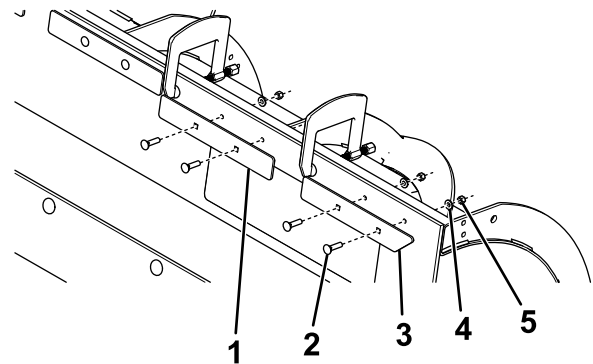

Figure 2
**Note:** If your plow does not have holes to use as a guide, use Figure 2 as a drilling guide.